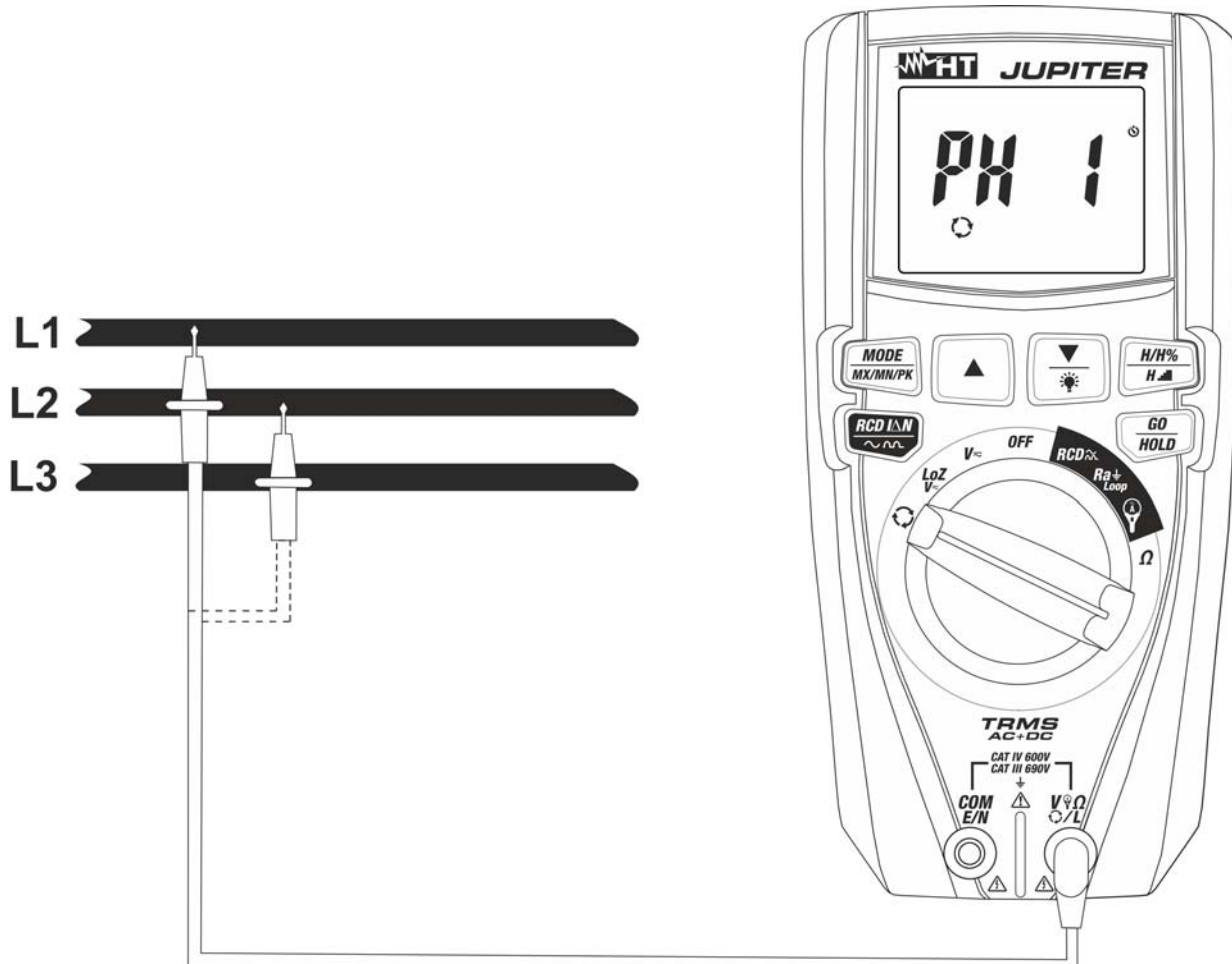
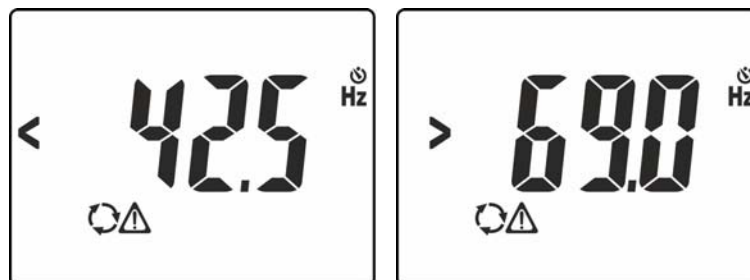
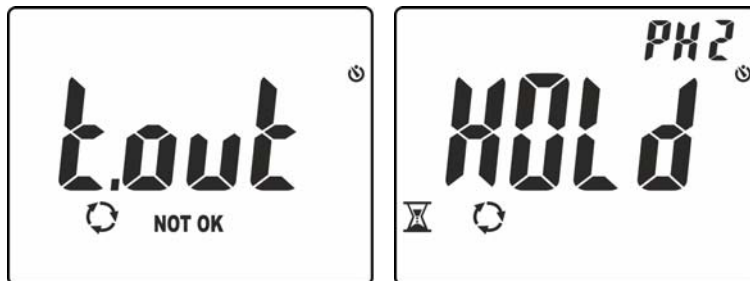

Fig. 12: Use of the instrument for phase sequence and phase concordance test
Fig. 13: Signal of voltage with wrong frequency
Fig. 15: Detecting phase L1 and waiting for phase L2
3. Position the red lead onto phase **L1** of the three-phase system to be tested (see Fig. 12). The following messages may appear on the display (see Fig. 13) to identify the presence of a voltage signal with frequency out of range **42.5Hz ÷ 69Hz**. In these conditions, the instrument does not perform the test.
6. Position the red lead onto phase **L2** of the three-phase system to be tested (see Fig. 12). In case passage between phase L1 and phase L2 takes more than **10s**, the instrument shows message “**t.out**” on the display (see Fig. 15 – left side). In conditions of correct voltage and frequency, the instrument shows message “**HOLD**”, symbols ⏰ and “PH2” and the buzzer sounds continuously, waiting for a stable voltage value on phase L2 to be detected (see Fig. 15 – right side)